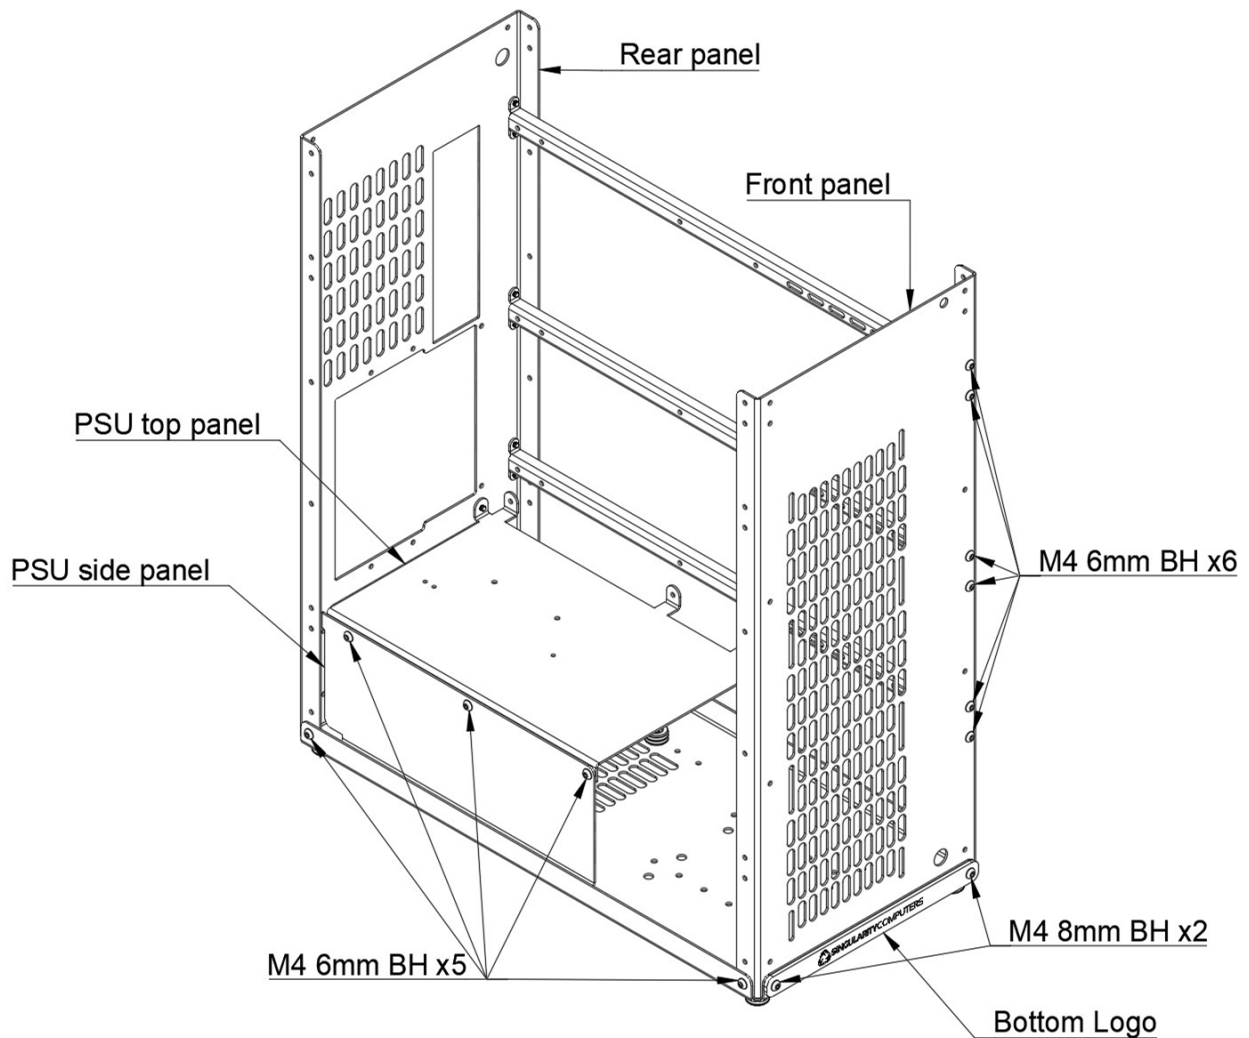
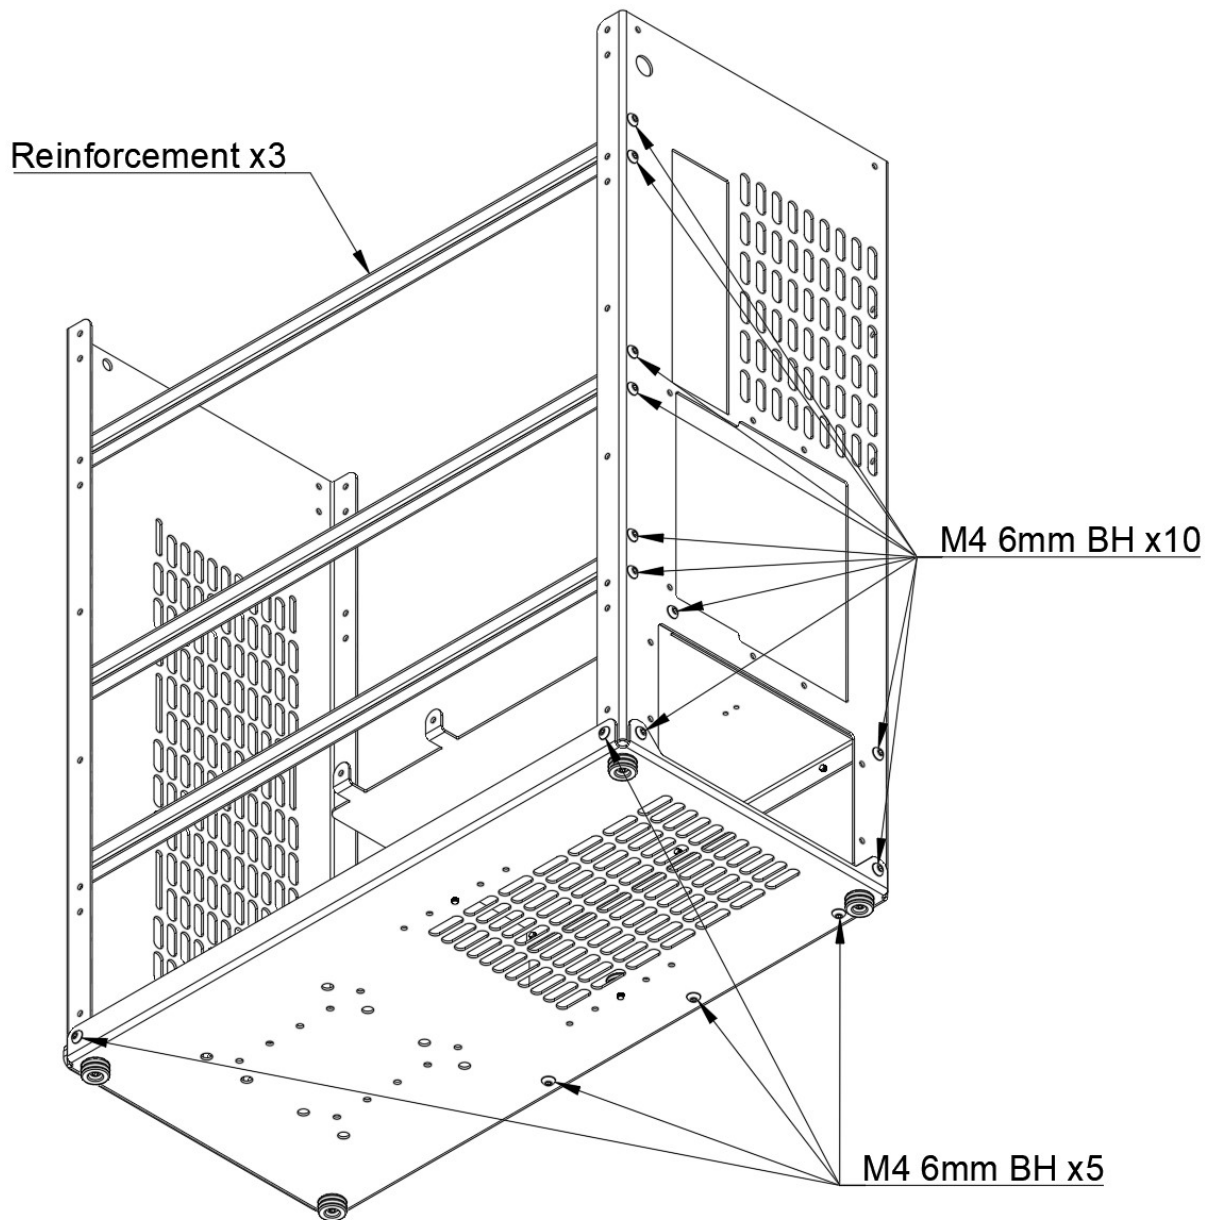

Figure 2A
Figure 2B
**Step 3:** Install the rear panel and the front panel to the Bottom Panel and secure them with M4 6mm BH x2 on the left, right and rear sides then secure the Bottom Logo to the front using M4 8mm BH x2, according to *Figure 2A* and *Figure 2B*.
- **Step 4:** Put the Reinforcing bars in-between the Front and Rear Panel and secure them with M4 6mm BH 2x on the front and 2x in the rear side per bar according to *Figure 2A* and *Figure 2B*.
- **Step 5:** Install the PSU top and PSU side panels into the case securing them to the bottom and rear panels and to each other using M4 6mm BH x8 according to *Figure 2A* and *Figure 2B*.